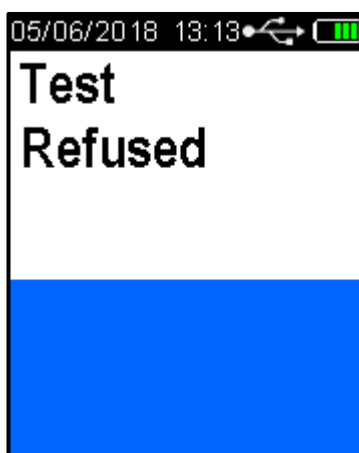

Figure 28 - Test Refused Displayed
- Press the *Test* key. The device will beep rapidly for one second and *Test Refused* will be displayed flashing momentarily (Refer to Figure 28). The screen will then return to the *press to test* display. The test refusal will be recorded in Records.